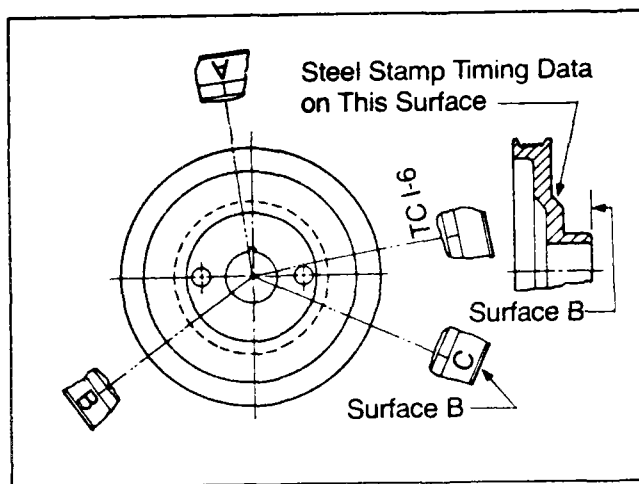

Fig. 2-52, (K11920). Accessory drive pulley marking — KT(A)-1150
1. Bar the engine in the direction of rotation until "B" mark on the pulley, Fig. 2-52, is aligned with pointer on the gear case cover. In this position, both valve rocker levers for cylinder No. 3 must be free (valves closed). The injector plunger for cylinder No. 6 must be at top of travel; if not, bar the engine 360 degrees, realign the marks with the pointer.